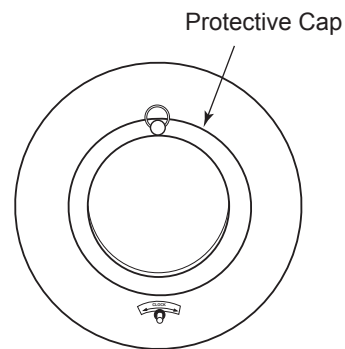
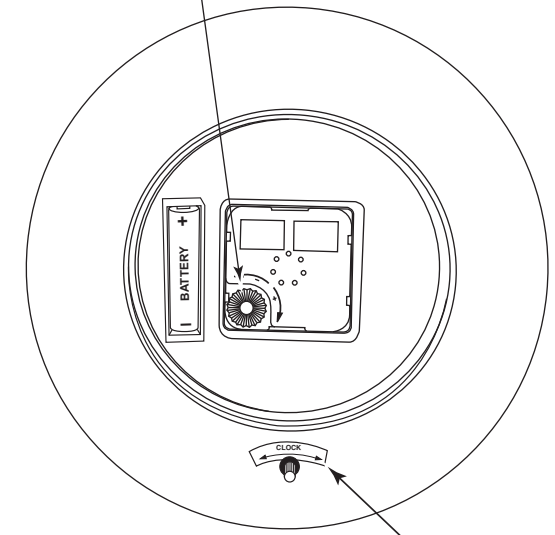

Figure 1
Figure 2
- Temperature gauge adjustment:** Remove Protective Cap (Fig. 1). Temperature is adjusted by the knob shown on the Figure 2.